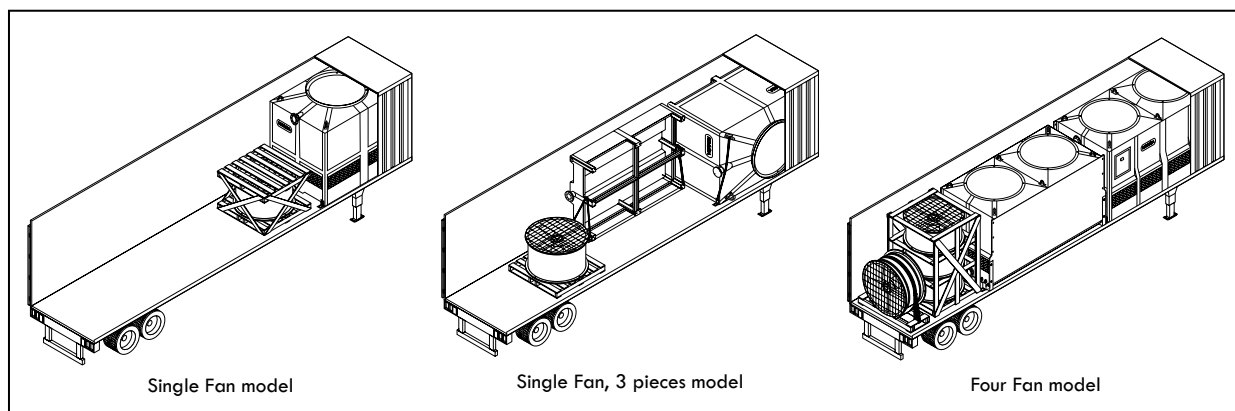

Figure AP-1: Unloading a Cooling Tower from a container
A. The body and duct sections are attached to the container. Make sure to unpin the Cooling Tower parts before unloading it. See Figure AP-1.